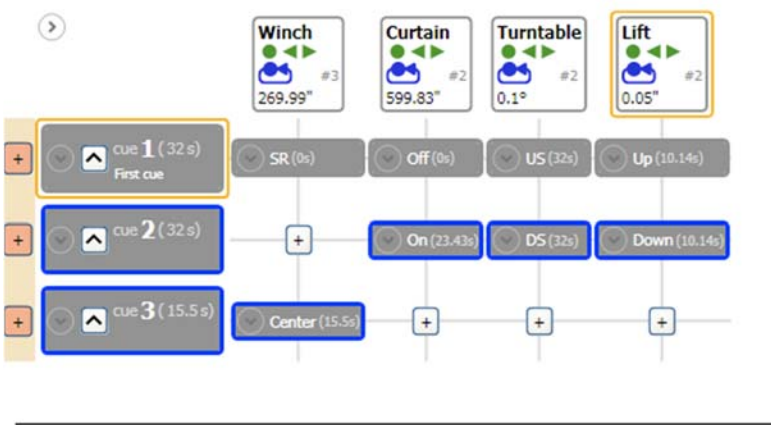

Figure 317
*This will compact the Cue Grid while allowing you to see the time each cue will take and the positions of every motor (Figure 317).*